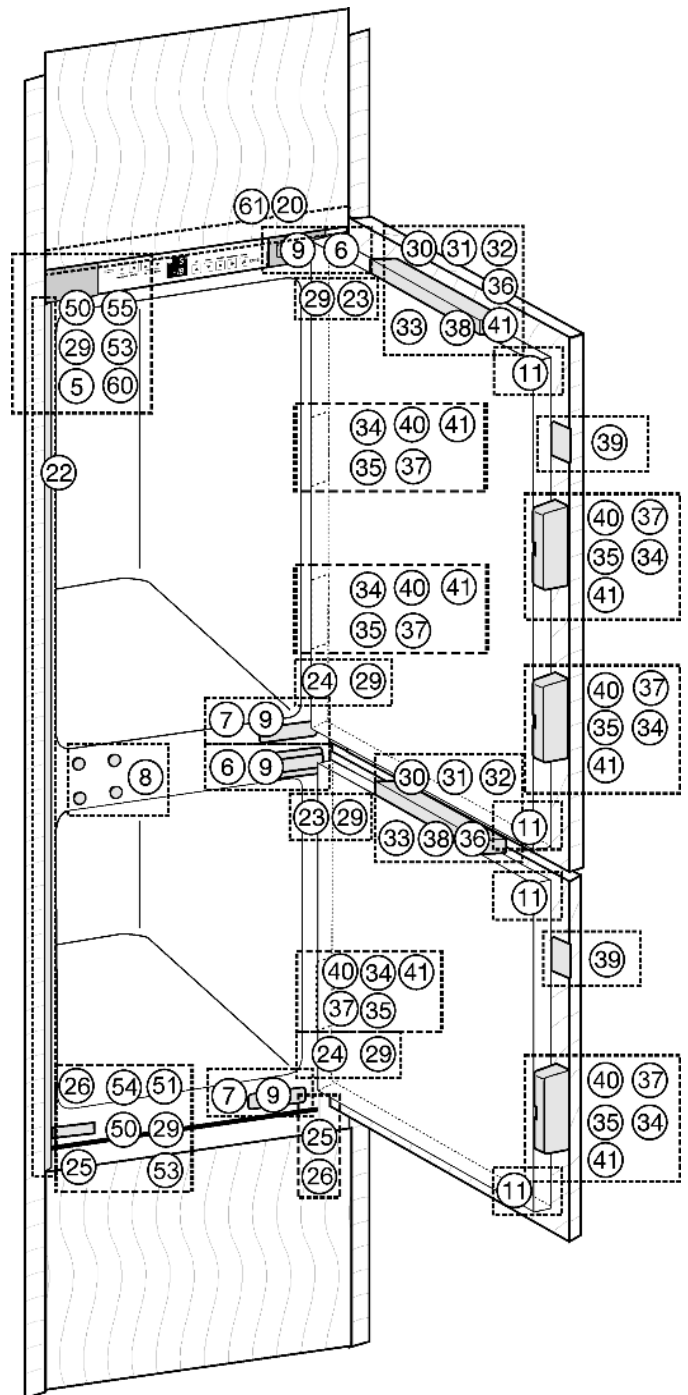
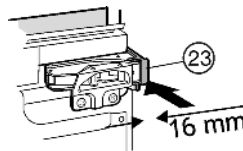
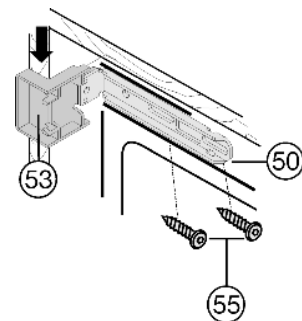
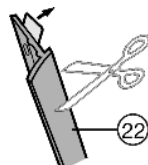

Fig. 9
Fig. 13
Fig. 14
Fig. 15
- ▶ Clip a spacer Fig. 13 (23) onto the upper hinges and a spacer Fig. 9 (24) onto the lower hinges.
- ▶ Attach the top and bottom covers Fig. 14 (53) to the mounting brackets Fig. 14 (50).
- ▶ Fasten the mounting brackets Fig. 14 (50) at the top with screws Fig. 14 (55) and at the bottom with screws Fig. 9 (51) such that the bracket can still be moved slightly to the left and to the right.
- ▶ Remove the protective film from the trim Fig. 15 (22). Attach the trim Fig. 15 (22) on the handle side and flush with the front to the projecting edge of the cover Fig. 14 (53) and glue to the sidewall of the appliance.
- ▶ To shorten the trim Fig. 15 (22) at the bottom, if necessary: Position the cover Fig. 9 (54) on the bottom mounting bracket Fig. 14 (50) and shorten the trim Fig. 15 (22) so that it is flush with the upper edge of the cover.
- ▶ Remove the cover Fig. 9 (54) again.
- ▶ Slide the appliance in until it comes into contact with the covers Fig. 14 (53) on the side wall of the unit. Fig. 14
- ▶ Adjust the adjustable feet Fig. 9 (25) with the supplied open-ended wrench Fig. 9 (26) to align the appliance vertically.